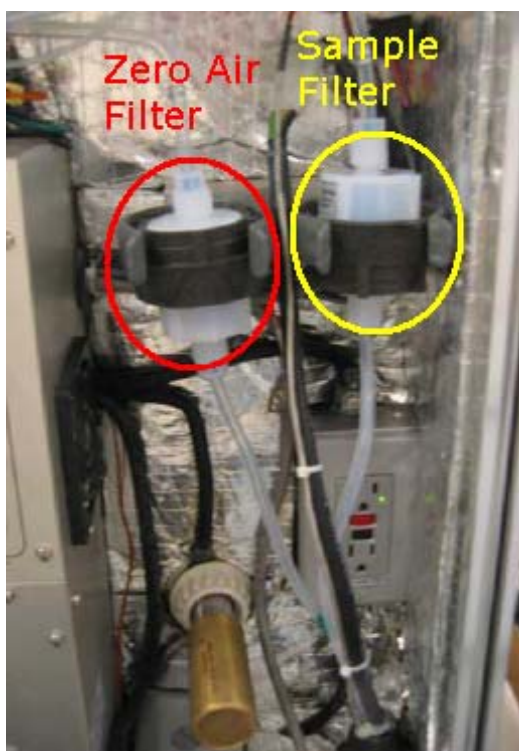

Figure 2. Tekran model 1130 zero air and sample filter
- Step 1. Remove the sample filter by unscrewing the Teflon nuts attaching the Teflon tubing (see Figure 2). **Be careful not to twist the Teflon tubing when disconnecting the housing. This may torque the regenerable particulate filter (RPF) and break the RPF tail. Be careful not to lose the ferules.**